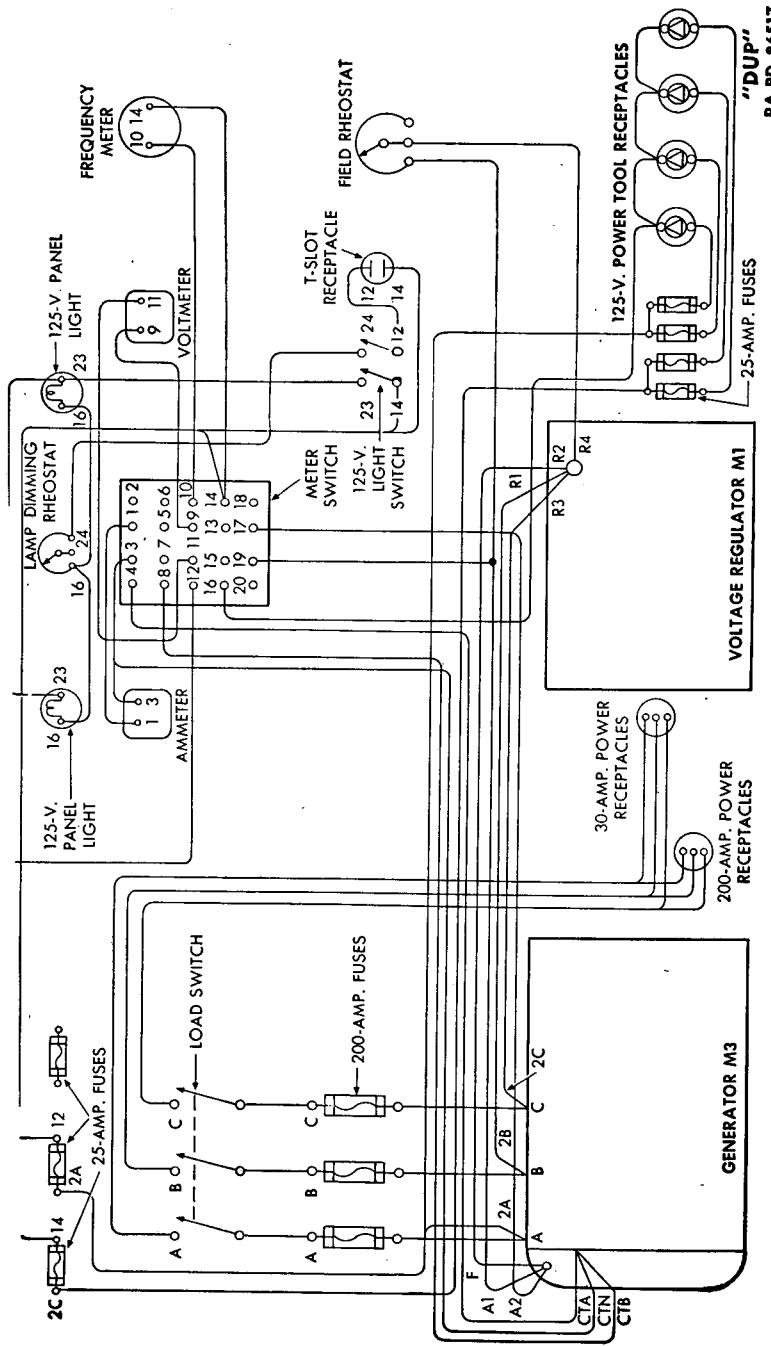

Figure 79.1—Generating System—Generating Unit M15A1—Simplified Diagram
90.1. DESCRIPTION AND OPERATION (fig. 79.1).